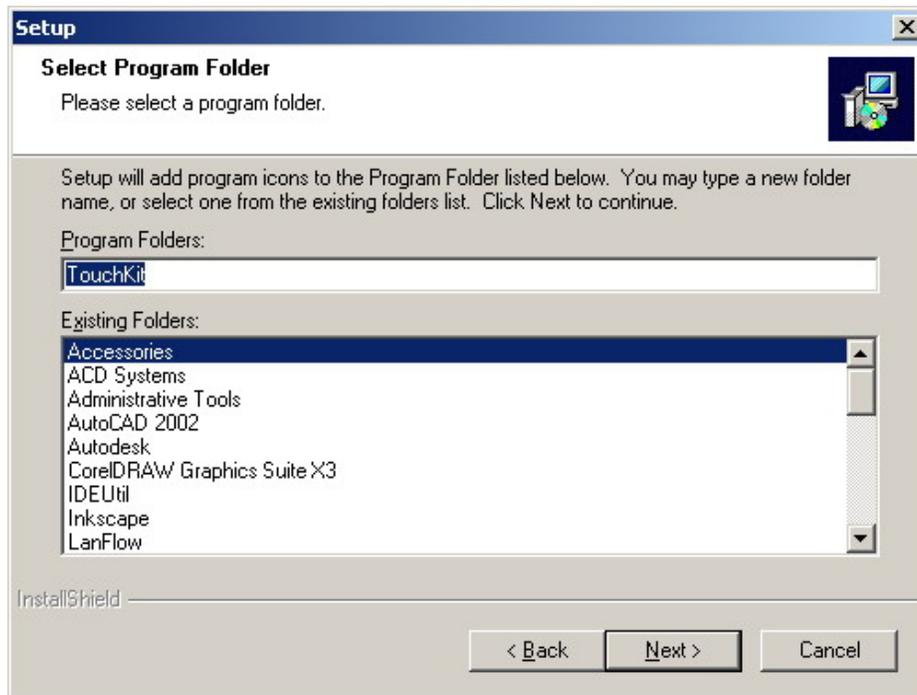

Figure C-8: Program Icon Directory
Step 11: The user is then prompted to select a file directory in which the program icons are saved (**Figure C-8**). The default folder is "TouchKit." If a different folder must be used, select a folder from the list shown. Once the folder is selected, click **NEXT** to continue.